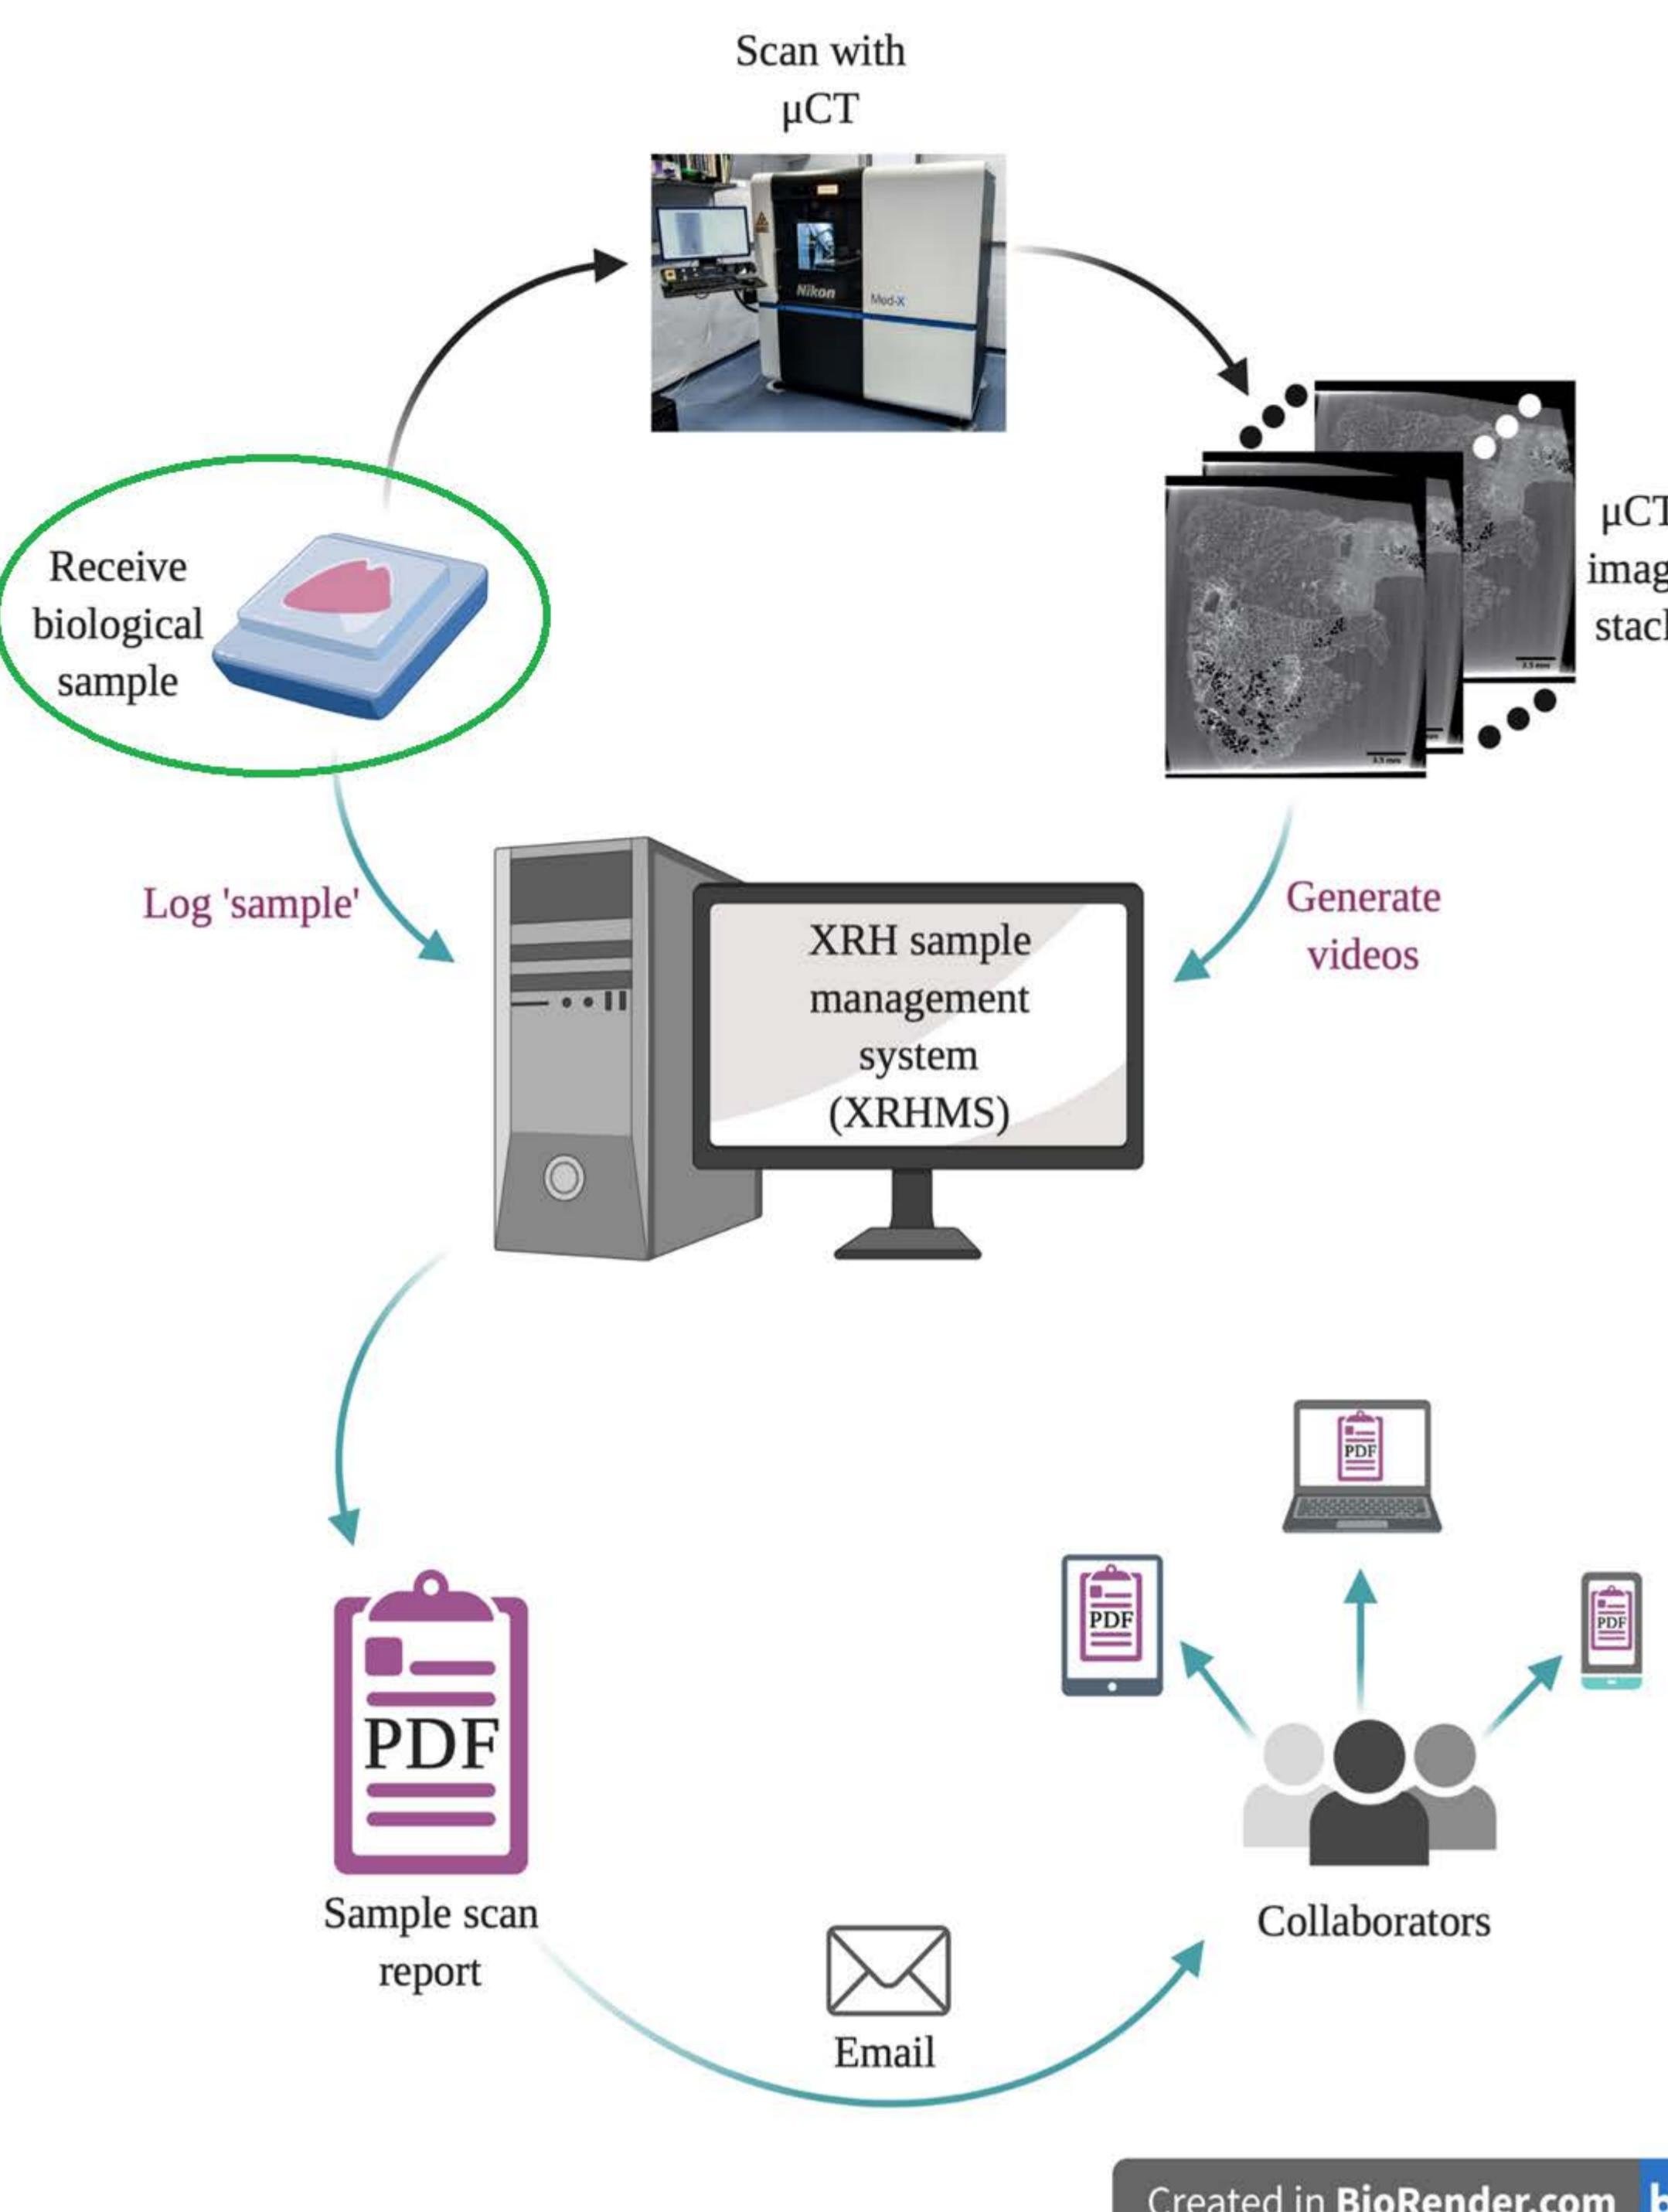
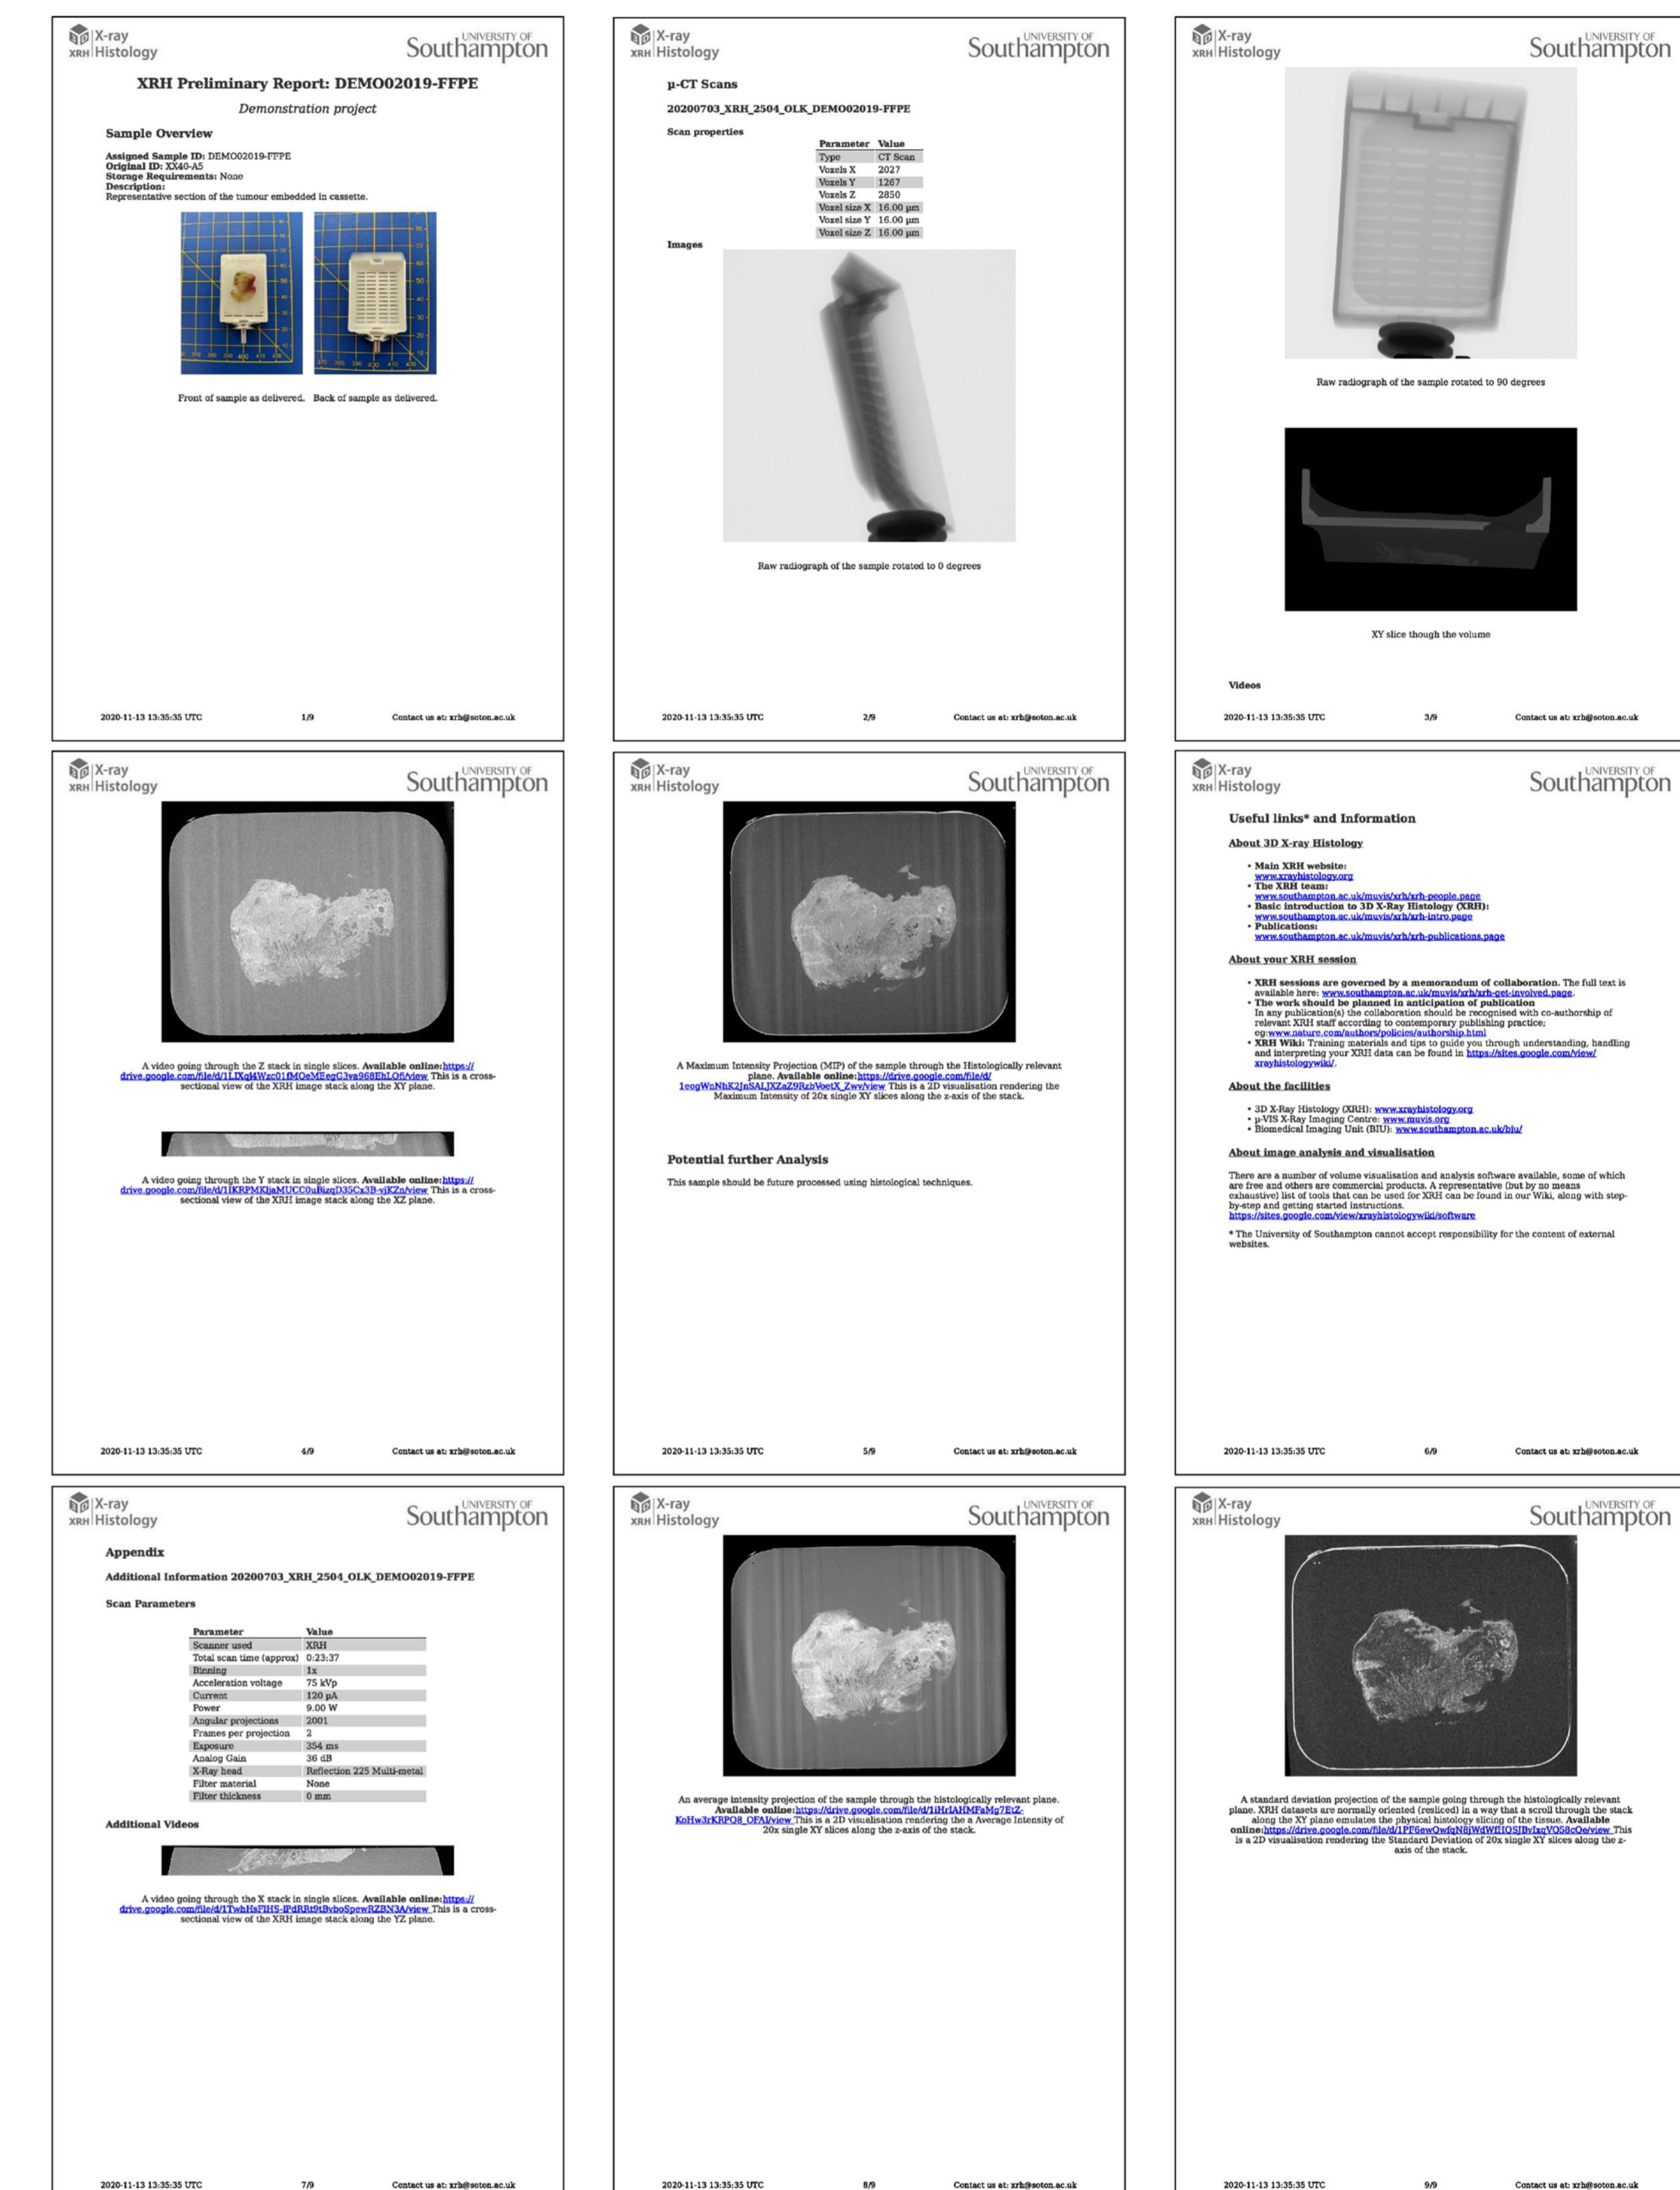

Figure 1: Summary of workflow for PDF report generation using the custom data management system (XRHMS). The start of the process is circled in green.
Figure 2: Example PDF report, click image to open full PDF version.
**Report Generation** To provide quick easy to understand reports the system combines metadata with scan images, and previously stored photos to produce easy to email PDF reports. These PDF can contain links to videos showing the full 3D data set, and example report is shown in Figure 2. The full process of sample being received through to PDF report is shown in Figure 1.